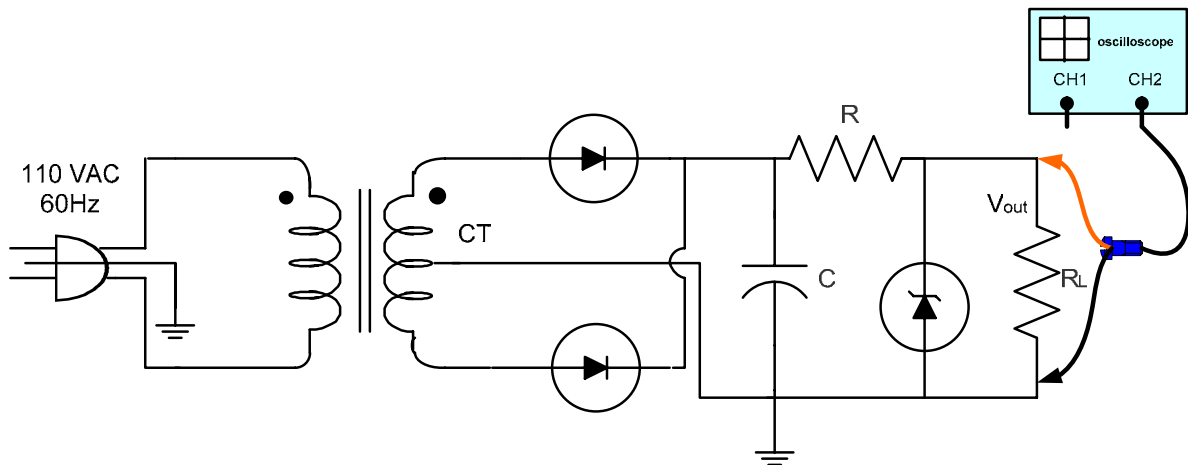

Figure 6
For the regulated power supply circuit shown in Figure 6, assume regular diodes with 0.7V forward drop and a Zener diode with 0.7V forward drop, $V_z = 10V$ at 20mA, $I_{min} = 5mA$ and $r_z = 10\Omega$. Use a 15V (peak), 60Hz sine wave at the transformer secondary and assume a maximum ripple level of 1V.
- Compute the unknown components needed to design 10V DC supply. Refer Figure 6. Hint: find R first, and then C assuming a discharge path through R and the Zener, r_z (Load R_L is disconnected). What is the ripple level for $C = 22\mu F$? Sketch the rectified, filtered, and regulated outputs.